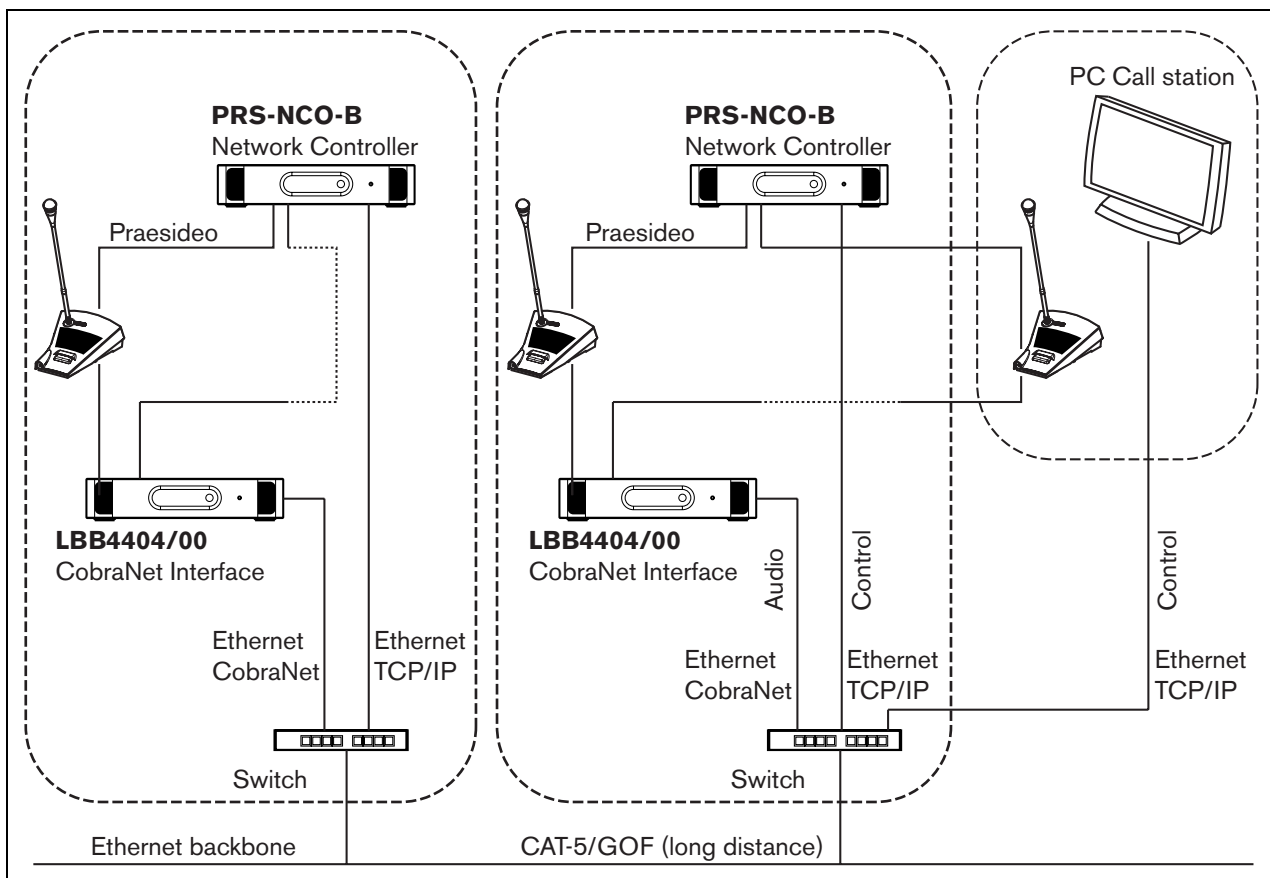

figure 32.4: Connecting systems
- Connect Praesideo systems (see figure 32.4 for an example).